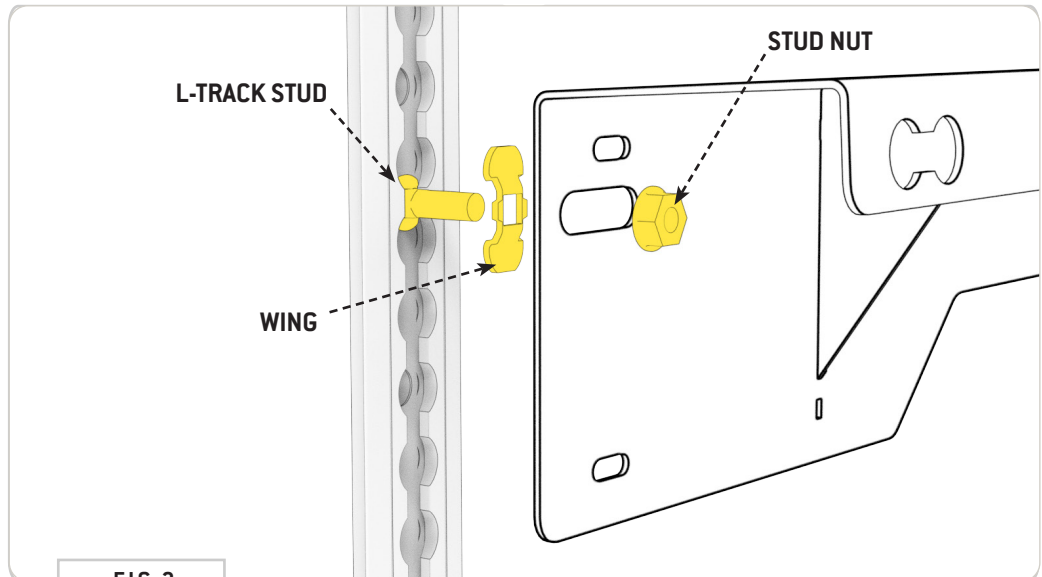

FIG 2
2.2a Raise bed rails up to L-Track, align mounting slots to desired location (one per side) and insert L-Track Studs to corresponding L-Track Key Ways (**FIG 2**). Secure L-Track Stud with Wing.